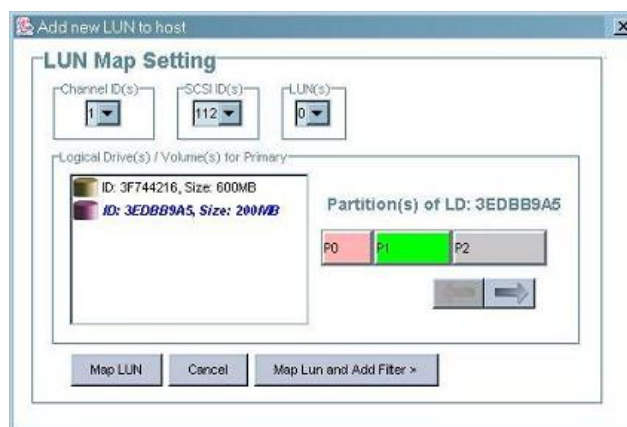

Figure 10-5: Select Add New LUN to Host
-  **Step 4.** Select a Logical Drive or Logical Volume with a single mouse-click. With a single mouse-click on the Partition color bar, select one of the partitions that you wish to associate with the selected channel ID/LUN number. See *Figure 10-5* for the configuration screen.